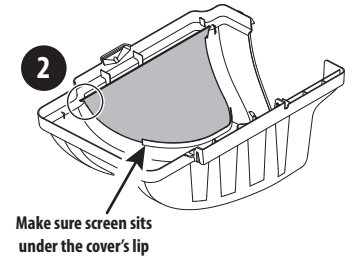

Figure 14
4. Make sure to feed the screen under the lip. Clip in the other side by pushing the screen into the provided cutout (2). See Figure 14.